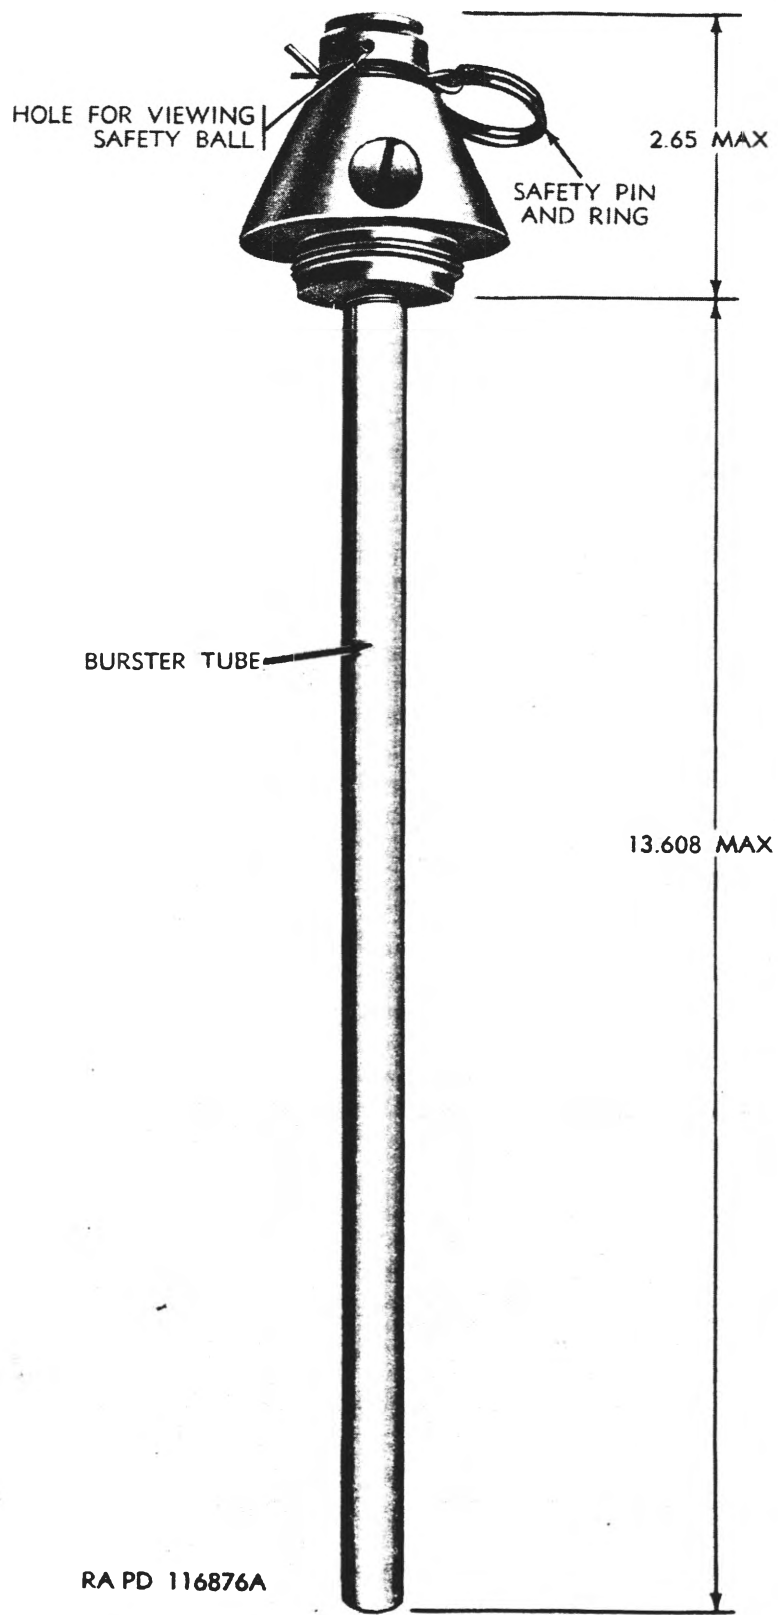

Figure 27. Fuze, point detonating: M8.
*a. General.* The point detonating fuze M8 (fig. 27) is a superquick impact-type fuze used with 4.2-inch chemical cartridges. It weighs about 1-1/2 pounds. The complete assembly consists of the fuze proper with an aluminum body, its various components, and a seamless steel burster tube. The bursting charge consists of about 65 grams of tetryl pellets in the burster tube and the lead cup.
- (1) The *safety pin* is a cotter pin passing through (off center) the body of the fuze and the retainer. The pin secures the retainer firmly to the body of the fuze and prevents its movement. Its function is to act as a reinforcement for the shear wire. Just before firing, the safety pin is pulled from the fuze by means of the ring attached to the pin.
- (2) The *shear wire* passes through the retainer and the fuze body. This prevents any movement of the retainer, even after the safety pin has been withdrawn, as long as the shear wire itself remains unbroken. The ends of the shear wire are bent into the annular groove around the outer surface of the retainer. This prevents accidental damage to the shear